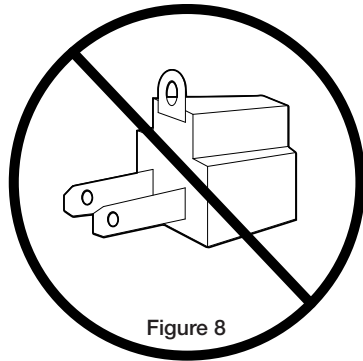

Figure 8
- Do not use an adapter (Figure 8).